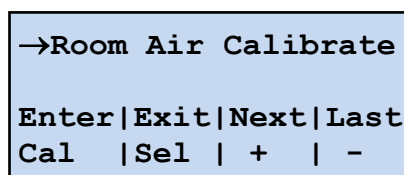

Figure 32. Room Air Calibrate screen.
14. Once you are in the **Room Air Calibrate** screen (see Figure 32), press three times the  button to access to the **Oxygen High Point selection** screen.